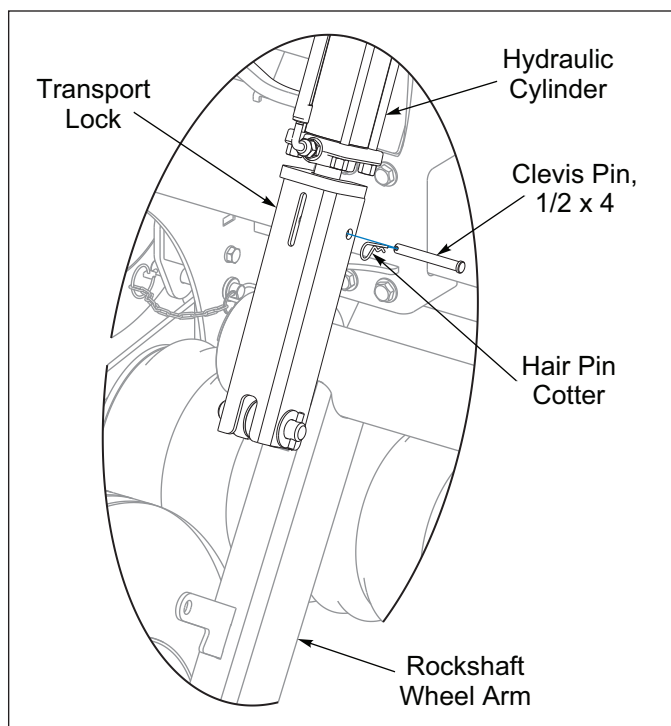

Figure 3-4: Transport Lock Engaged
6. If Transport Locks are not engaged, fully extend the hydraulic lift cylinders and rotate Transport Locks in the engaged position over the Cylinder Rods. Secure with the Clevis Pins and Hair Pin Cotters. **See Figure 3-4.**
2. Raise the Till 'N Seed fully to extend the Hydraulic Lift Cylinders and rotate the Transport Locks in the engaged position over the Cylinder Rod. Secure with the Clevis Pins and Hair Pin Cotters. **See Figure 3-4.**
3. If not already done, raise Till 'N Seed fully and engage Transport Locks. **See Figure 3-4.**
7. Raise the Till 'N Seed and install Transport Locks. **See Figure 3-4.**